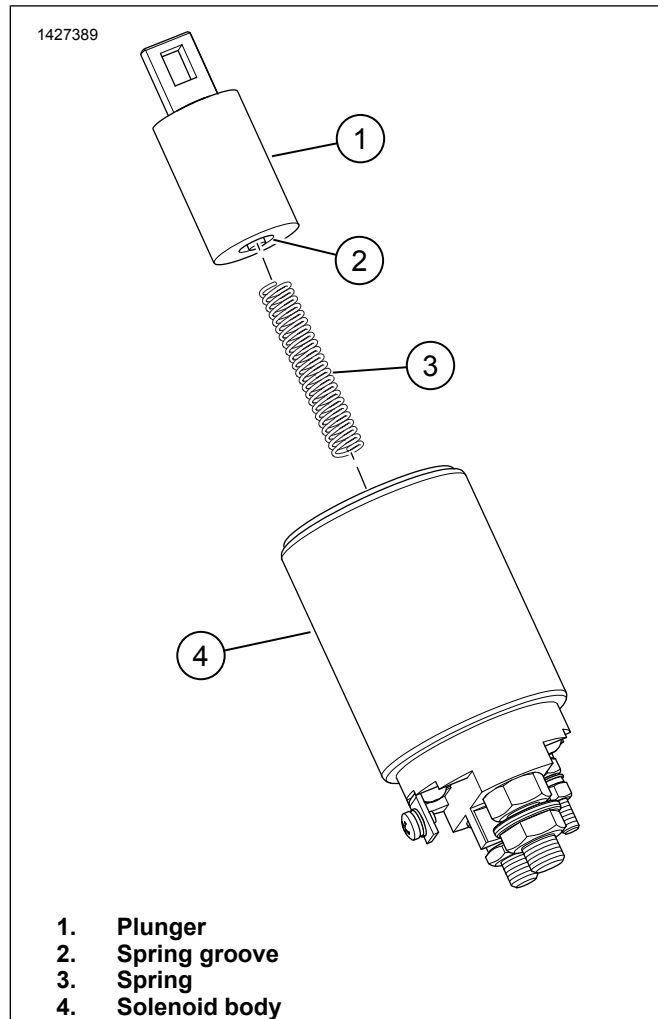
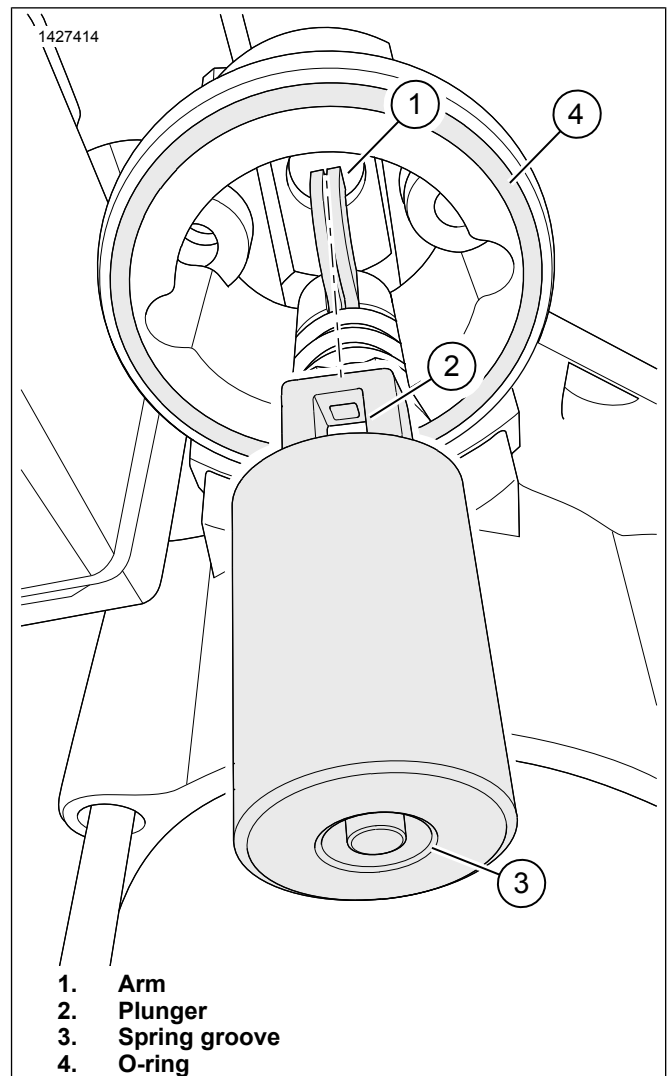

Figure 37. Solenoid Components
Figure 38. Solenoid Plunger Install
1. See Figure 38. Install plunger (2) with slot on arm (1).
2. Install O-ring (4).
3. See Figure 37. Place spring (3) in spring groove (2) on plunger (1).
4. Place solenoid body (3) in position with spring centered.